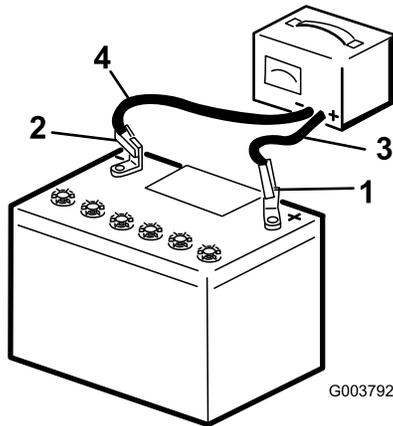

Figure 32
- Charge the battery for 10 to 15 minutes at 25 to 30 A or 30 minutes at 4 to 6 A (Figure 32). Do not overcharge the battery.
- When the battery is fully charged, unplug the charger from the electrical outlet, then disconnect the charger leads from the battery posts (Figure 32).